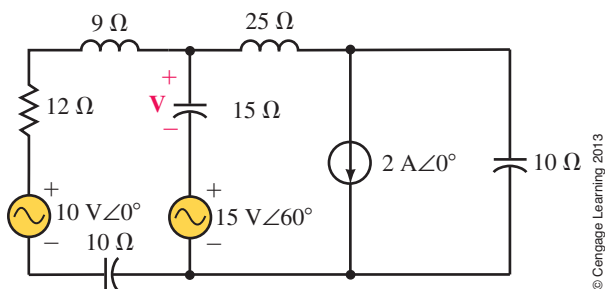

FIGURE 19-59
- Refer to the circuit of Figure 19-59.